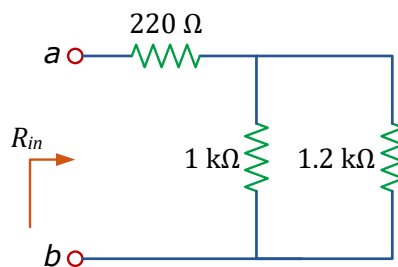

Figure 1.2: Resistive circuit for Lab Experiment 1.
- 1 Consider the circuit given in Figure 1.2. Complete the following Table by collecting the resistors from the resistor containers in the lab and measuring their resistance with the precision LCR Bridge at each room and then with the digital multimeter (DMM). Compare and comment on the results, i.e., explain the factors that cause the difference between the measured values and the nominal ones.
- 2 Calculate the input resistance R_{in} in the circuit of Figure 1.2 using your measured values from the Table above.
- 3** Build the circuit of Figure 1.2 on your boards and measure the input resistance R_{in} using the digital multimeter. Compare its value with your pre-lab work in question **8** and your calculations from the previous question (question **2**), and comment on the results.